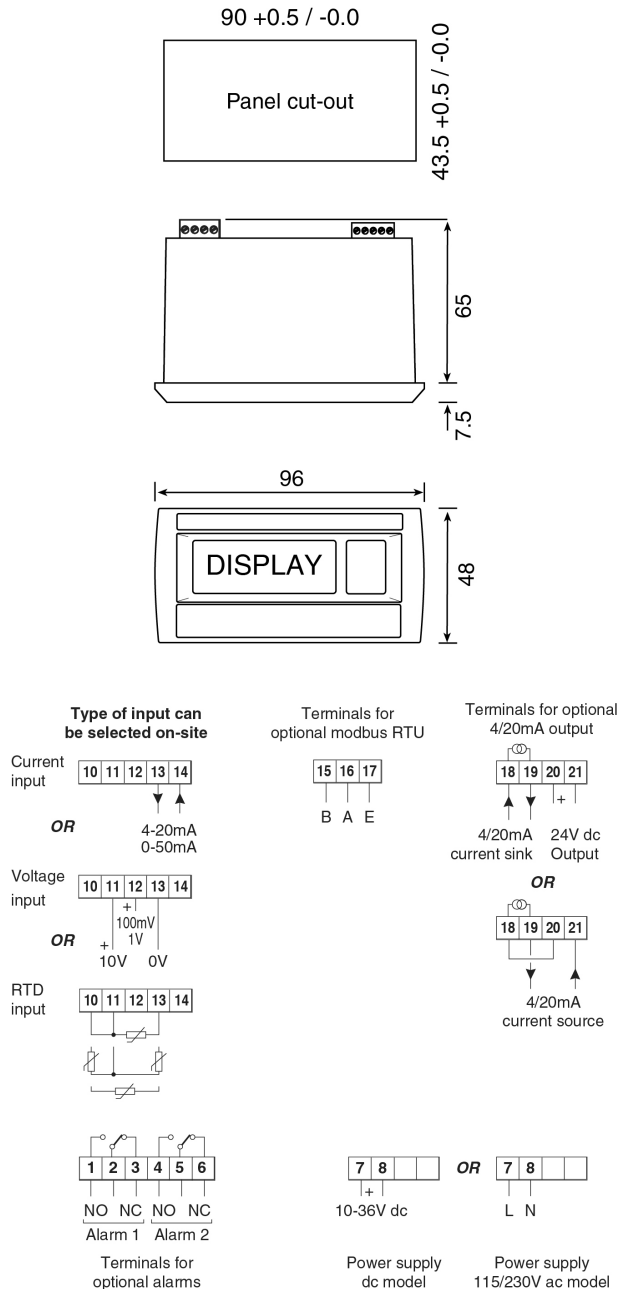

Fig 6 A90 meter dimensions and terminals
Selection of the input type is made within the configuration menu which is described in section 5 of this manual. Input terminals also vary for different inputs as shown in Fig 6.
Fig 6 shows the overall dimensions of the instrument together with the recommended panel cut-out dimensions to achieve an IP66 seal between the instrument enclosure and the instrument panel.
Fig 6 show the overall dimensions of the indicators together with the recommended panel enclosure cut-out dimensions.
- To achieve an IP66 seal between the instrument enclosure and the instrument panel, the panel aperture should have the recommended dimensions specified in Fig 6.
- Connect the panel wiring to the rear terminal blocks as shown in Fig 6. The terminals may be removed from the instrument by pulling.